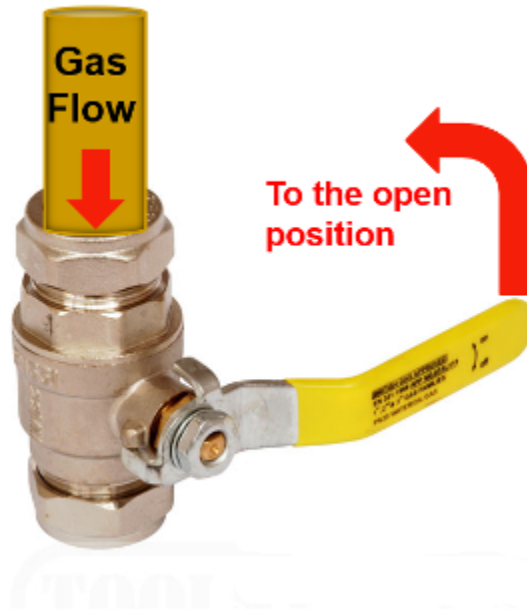

Figure 2. Ball valve fail safe position
fail-safe position (Figure 2). Fail safe means that the valve is installed so that should the packing become loose or the valve arm be unintentionally moved, the arm will move to the close position. Installation upside down is not recommended because it can cause dirt to accumulate by the stem packing.
- Figure 2. “Ball valve fail safe position” by Camosun College is licensed under a CC BY-NC-SA licence.